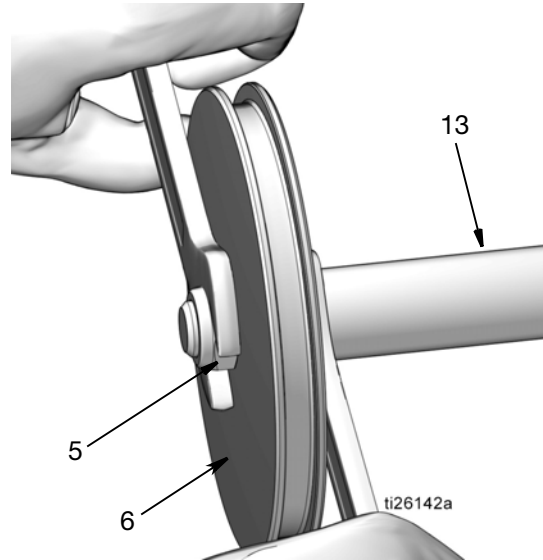

FIG. 48
- d. Install nut (5) over the end of the piston rod (13). Use two wrenches, working in opposite directions to tighten the nut. Secure one open end wrench to flats of piston rod and use the second wrench to tighten the nut (5) as shown in FIG. 48.